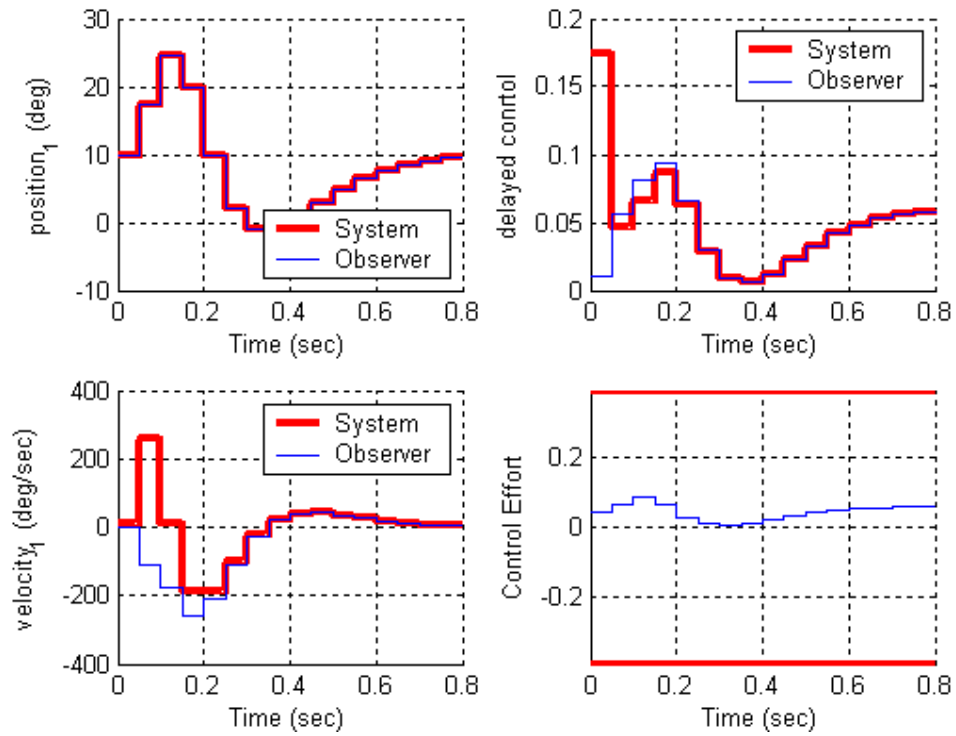

Figure 1. Results for problem **1b**.
b) Assume the only known state is the position of the first disk, and the output is the position of the first disk. Use a sampling interval of 0.05 seconds, assume all the state feedback poles are at 0.5, and the observer poles are at 0.2 and 0.3. Also assume the system initially starts at a position of 10 degrees, with an initial velocity of 10 degrees, and an initial delayed input of 10 degrees (be careful of units here! The model works in radians.). The initial estimates of the observer are zero. For a 10 degree step input you should get the graph shown in Figure 1. Turn in your plot.